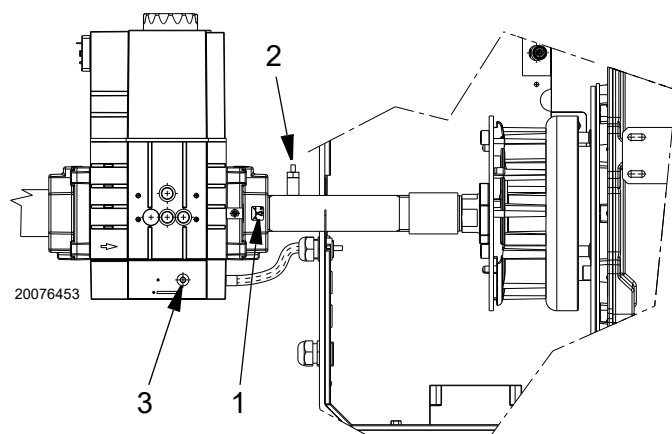

Fig. 7
* Tighten screw 1)(Fig. 7) fully home towards “-” mark, then open it towards “+” mark, following the indications provided in Tab. F.
Key (Fig. 7)